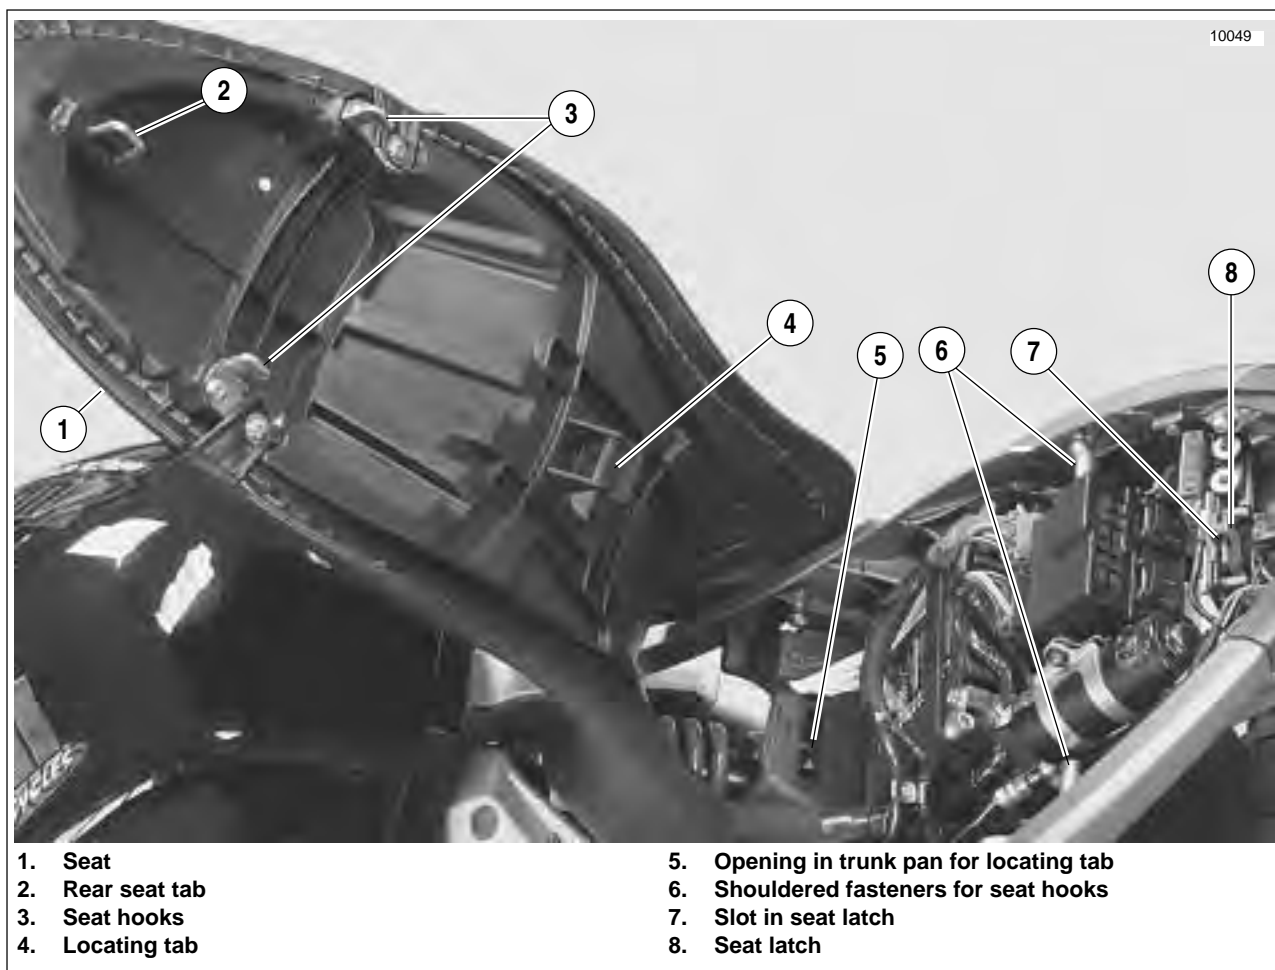

Figure 2-114. Seat and Attachment
1. See Figure 2-114. Insert ignition key into seat lock located on left side of motorcycle below seat.
3. Lift and remove seat (1).